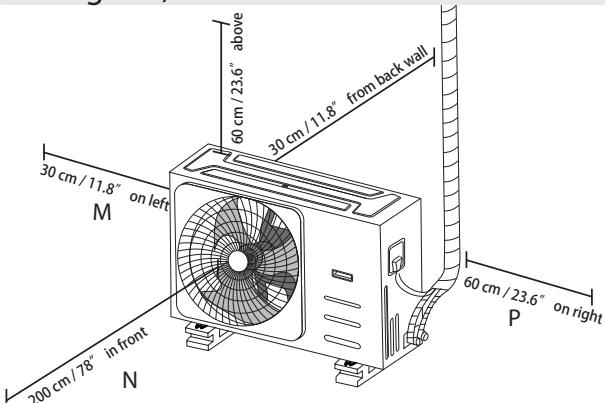

Fig. 6.8
**NOTE:** The minimum distance between the outdoor unit and walls described in the installation guide does not apply to airtight rooms. Be sure to keep the unit unobstructed in at least two of the three directions (M, N, P) (See Fig. 6.8)